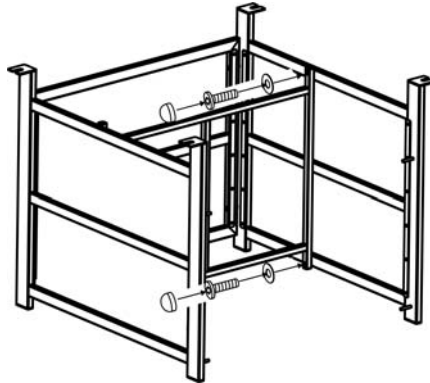

Figure 3
3. Attach the middle support to the side panels by using four 1/4"x30 mm bolts and Ø6.5x1.0 mm washers as shown in Figure 3. Guide the bolts through the holes in the middle support, into the pre-drilled holes in the side panels. **Hand tighten only.**